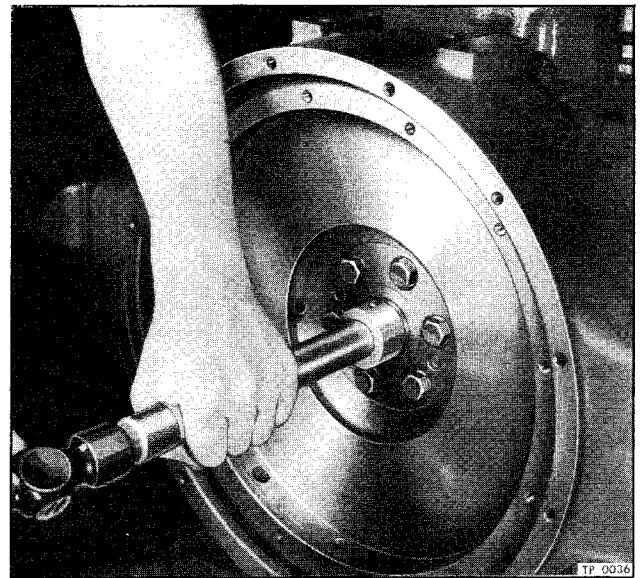

Figure 5—Pilot Bearing Installation
2. Using driver to apply pressure at bearing outer race (fig. 5) drive pilot bearing into place in flywheel. Bearing race must bottom against shoulder in flywheel bore.